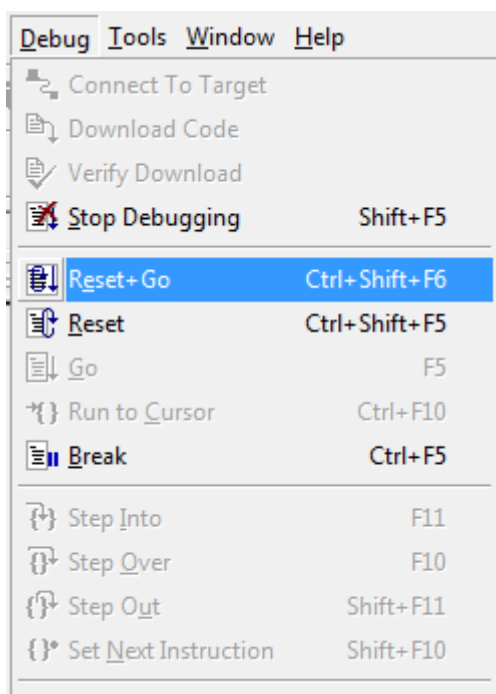

Figure 11. Select Reset+ Go from the Debug Menu
14. To run the application, select **Reset+Go** from the **Debug** menu, as indicated in Figure 11. As a result, LEDs D2, D3, and D4 will blink in sequence.